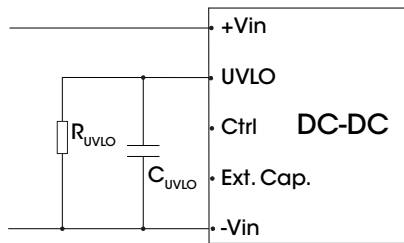

Figure 12.
3. The UVLO pin can adjust the point of input under-voltage protection by the external resistance R_{UVLO} , for the value of R_{UVLO} , please refer to Fig. 12. If the pin is open circuit, the point of input under-voltage protection is 11 V.
3. The resistance R_{UVLO} sets the undervoltage protection point, for the value of R_{UVLO} , please refer to Fig. 12.